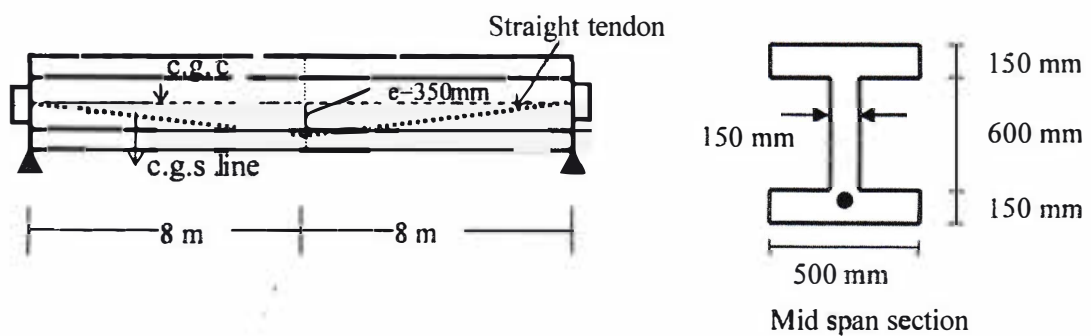

Figure: 3
4. (a) Evaluate the mid-span deflection of a 16 m span I-beam as shown in **Figure: 3** (14)